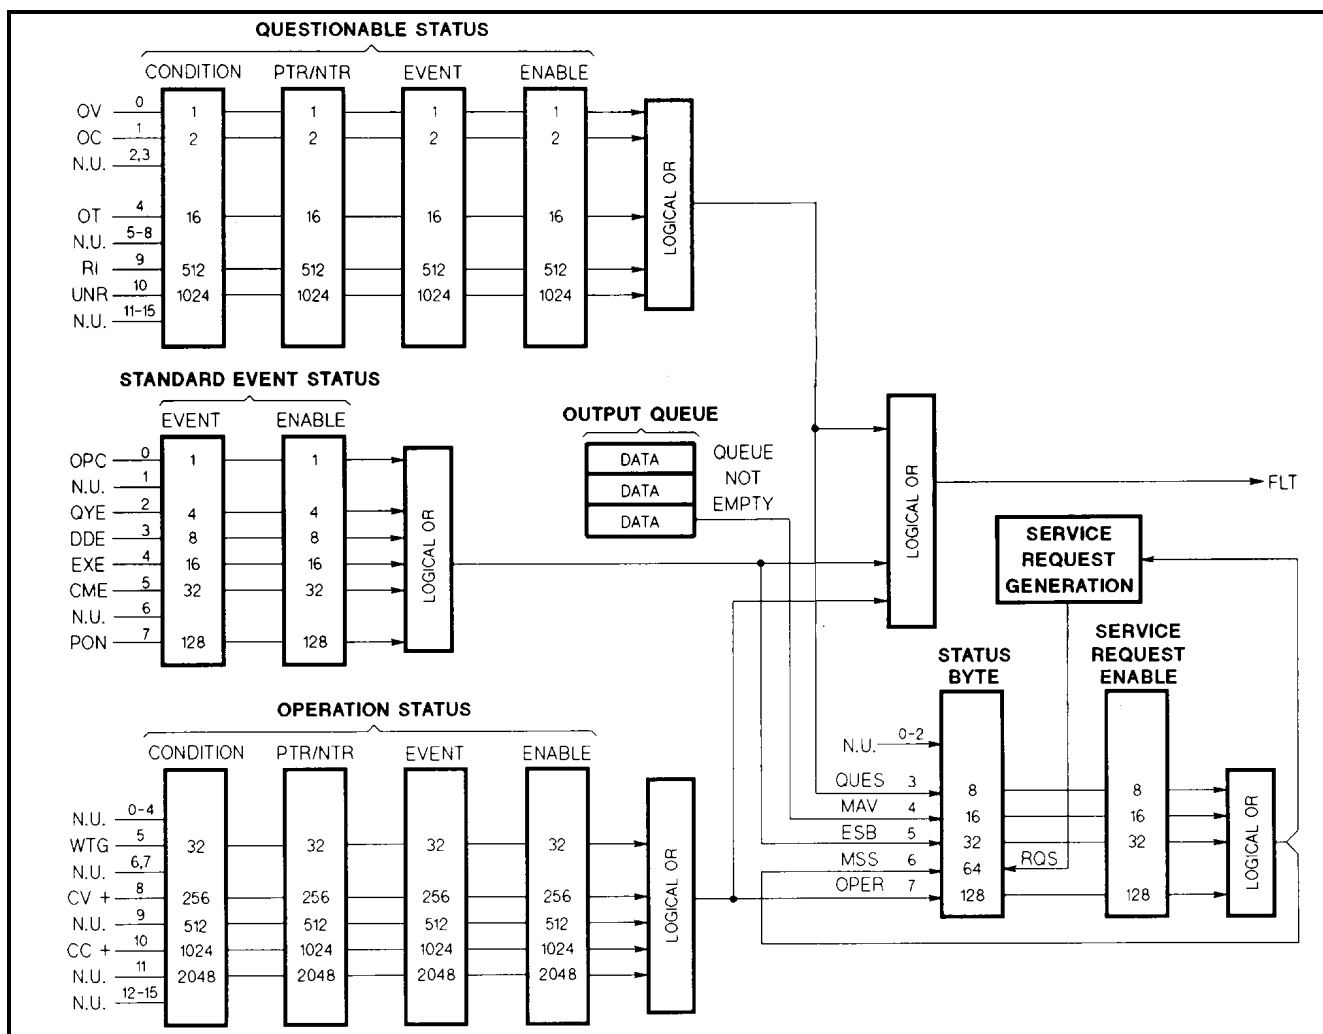

Figure C-4. Power Supply Status Structure
Figure C-4 shows the status structure of the power supply in SCPI mode. The Standard Event, Status Byte, Service Request Enable registers and the Output Queue perform standard GP-IB functions defined in the *IEEE 488.2 Standard Digital Interface for Programmable Instrumentation*. The Operation and Questionable Status registers implement the status reporting requirements of the power supply. Table C-5 shows the bit configuration of each status register.
**Register Functions.** The Questionable Status registers record signals that indicate abnormal operation of the power supply. As shown in Figure C-4, the group consists of a Condition register, PTR/NTR Filter, Event register, and Enable register.
- Each bit of the PTR filter, when programmed ON (1), allows a 0-to-1 transition of the corresponding Condition register bit to set the corresponding bit of the Event register.
- Each bit of the NTR filter, when programmed On (1), allows a 1-to-0 transition of the corresponding Condition register bit to set the corresponding bit of the Event register.
- The Enable register serves as a mask between the Event register and the Logical OR circuit that sets the QUES(tion) bit (3) of the Status Byte register. If a bit in the Enable register is programmed On (1), it allows the corresponding Event register bit to be summed into the QUES bit. The register is a read/write register programmed with the **STAT:QUES:ENAB** command.
**Status Programming Examples.** Table C-3 shows four examples that set the Questionable Status register group bits to enable specific conditions. Refer also to Figure C-4.
**Register Functions.** The Operation Status registers record signals that are part of the power supply's normal operation. As shown in Figure C-4, the group consists of a set of registers similar to the Questionable Status group. The output of the Operation Status group is logically-ORed into the OPER(ation) summary bit (7) of the Status Byte register.